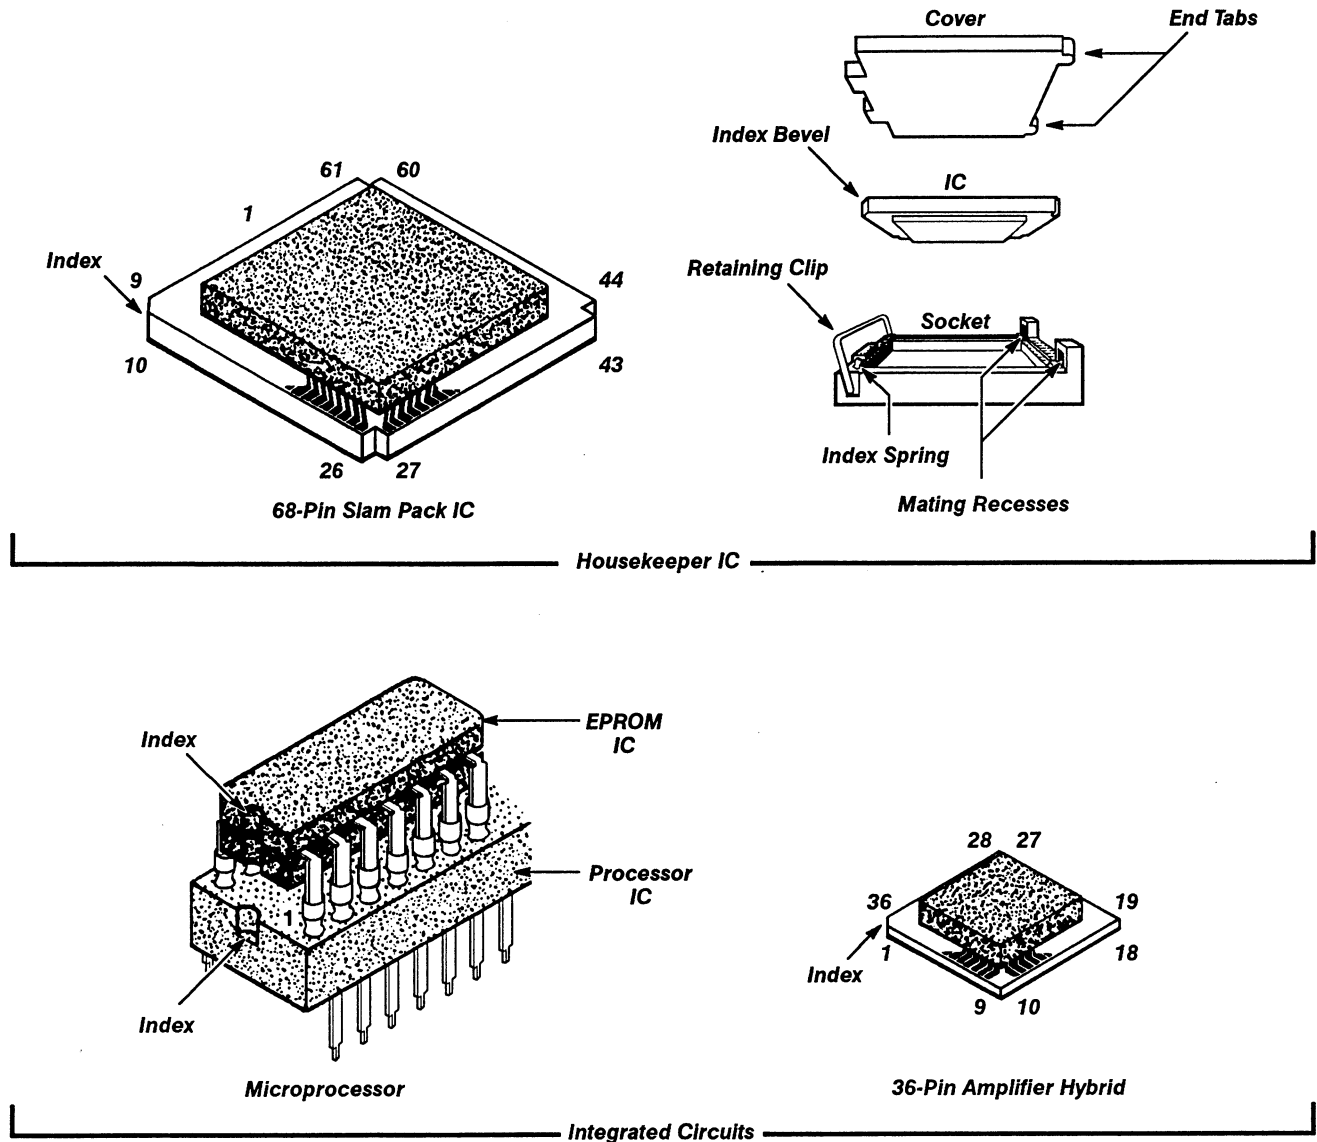

Figure 3-2 – Semiconductor Indexing Diagram
Housekeeper Integrated Circuit ("Slam-Pack" ICs) – The Housekeeper IC (A1U600) is indexed to its socket by a beveled corner, as shown in Figure 3-2. The other corners are notched to fit the edges of the socket. The beveled corner aligns with a spring (small metal tab) at one corner of the socket.
- Step 2: Do not use the IC label as an index. Look for the index on the IC body. Align the index slot with that of the A1U700 Processor IC underneath it. (Figure 3-2 gives an illustration of this indexing.)